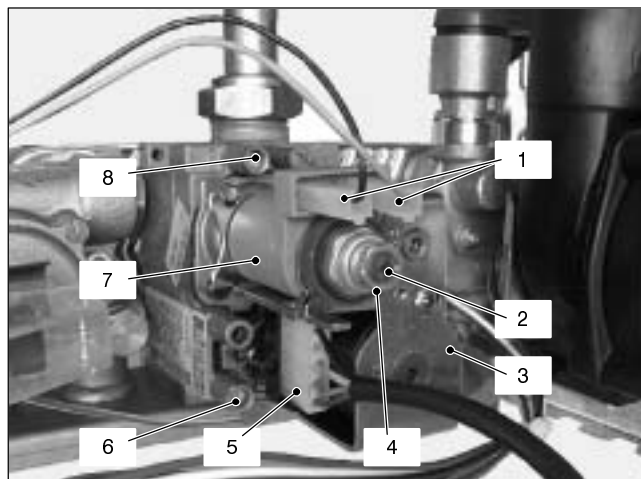

Fig. 45
11.2 Nomenclature of the parts (Fig. 45)
- 2 Open the gas valve inlet pressure test point (6 in Fig. 45) at the valve input, connect a suitable pressure gauge and check the gas pressure of the supply network.
- 4 Open the gas valve outlet pressure test point (8 in Fig. 45) and connect the gauge;
- 7 Rotate the maximum gas pressure adjustment (4 in Fig. 45) until you obtain the required pressure (by rotating clockwise the pressure increases).
- 8 Disconnect one of the two connectors (1 in Fig. 45) or, alternatively, remove the service panel as explained in the section 2.3 of this manual and set the dip–switch selector 1 (see section 9.5) to the OFF position.
- 9 Rotate the minimum gas pressure adjustment (2 in Fig. 45) until you obtain the required pressure (by rotating clockwise the pressure increases).